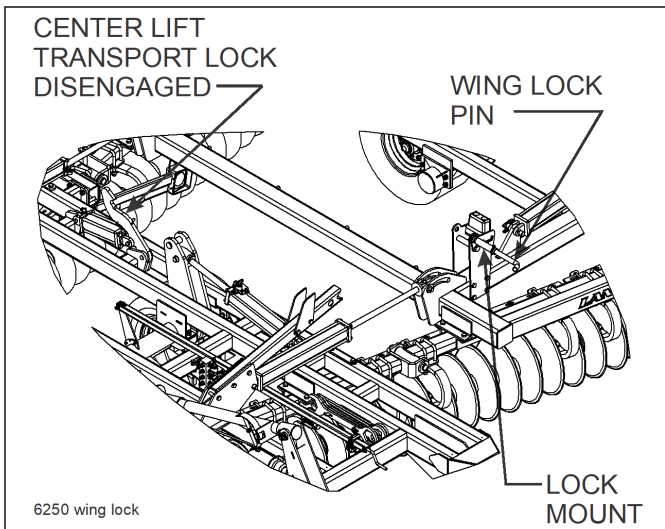

Figure 4-6: Stored Transport Locks
2. Begin folding the machine. Transport locks will engage on the center lift as the outer wings are folding, fully fold all inner and outer wings (See Figures 4-6 and 4-7).
2. Fully raise the folded machine to unhook the locks and continue to hold the lever to fully extend the wing transport wheels (See Figures 4-6 and 4-7).
2. Remove the wing lock pins by sliding forward. Unfold the wings and extend the fold cylinders completely noting that the transport locks are also disengaged **(See Figure 4-6.)**